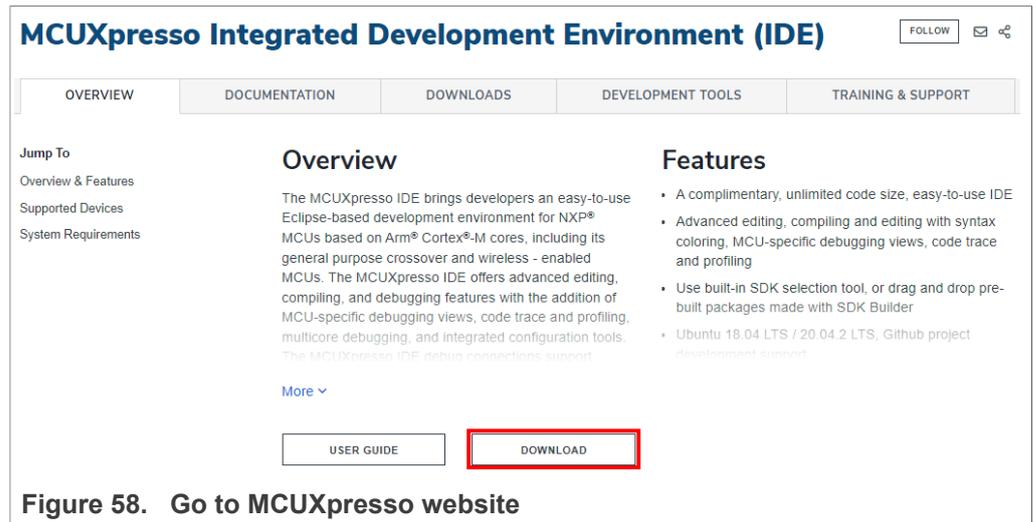

Figure 58. Go to MCUXpresso website
1. Go to MCUXpresso and click the download button as indicated in Figure 58: